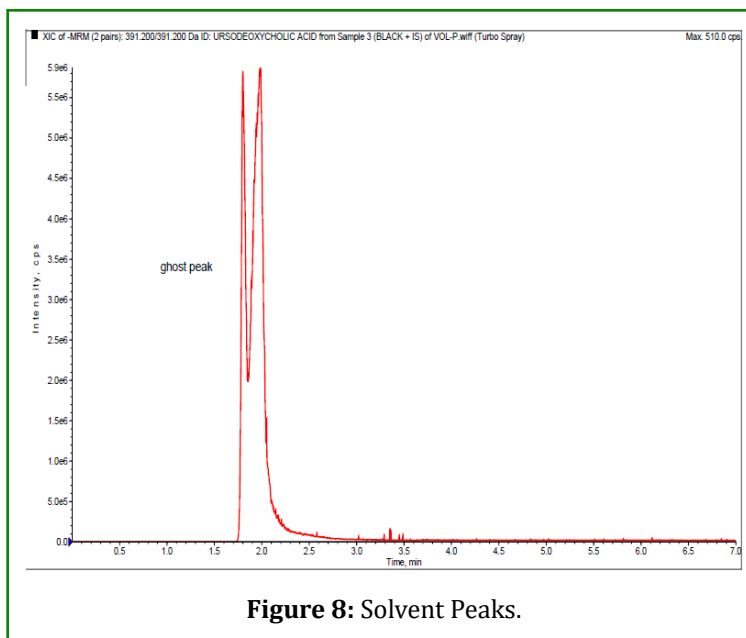

Figure 8: Solvent Peaks.
- **Examples:** Impurities in solvents or additives that introduce unexpected signals (Figure 8).